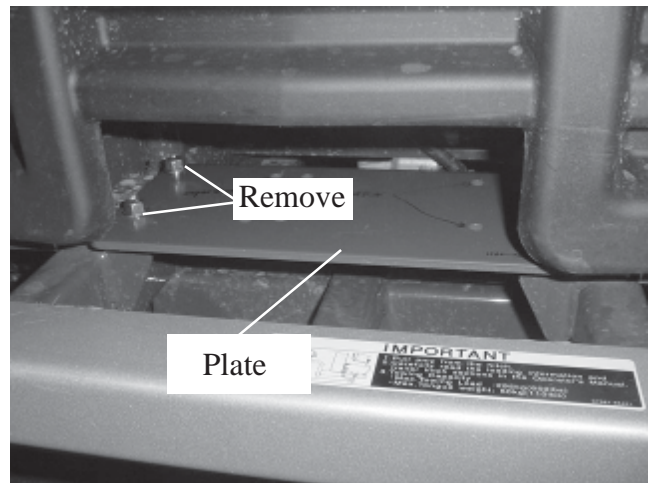

Figure 1
1. Remove the four 10mm bolts securing the factory winch plate, Figure 1.